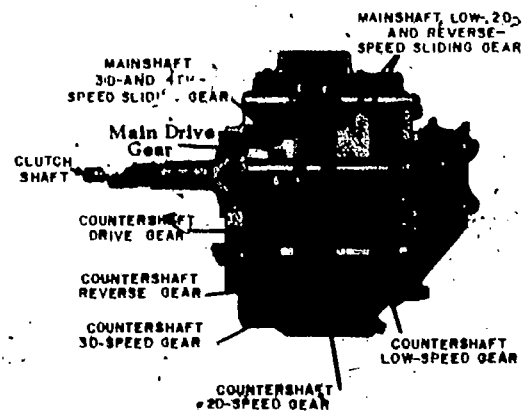
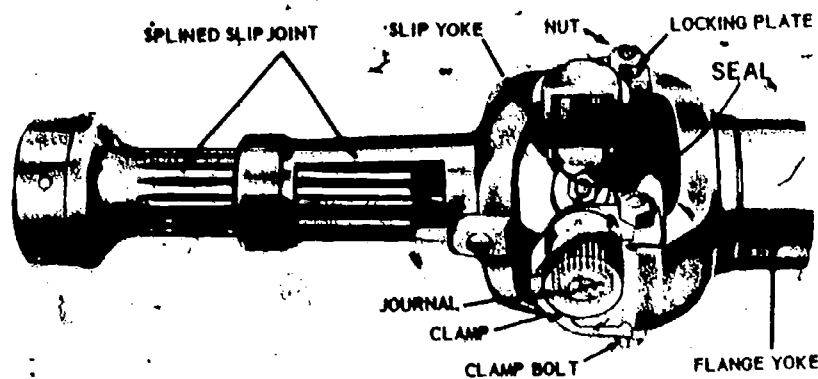

Fig 2-37. Four-speed truck transmission.
Fig 2-38. Slip joint and common type of universal joint.
- (a) **Sliding-gear (fig 2-37).** The spur gear, constant mesh, and synchromesh type transmissions are used in the different items of engineer construction equipment. The operator must disengage a clutch, select the gear ratio, and slowly engage the clutch to cause the power to flow.
- (4) **Auxiliary transmission and transfer case.** An auxiliary transmission and transfer case is usually used in construction equipment to provide an additional gear reduction, to provide power to the front wheels on all-wheel drive vehicles, and to furnish power for auxiliary devices, such as a winch. It is connected to the main transmission by a short propeller shaft (jack shaft) and universal joints. Basically, it is an additional gear train which provides a low-speed range, and permits power to be applied to the front wheels when necessary. It is sometimes referred to as a "drop box," because it provides a means of lowering the power train enough for the front propeller shaft to clear the engine.
- (5) **Propeller shaft.** Power is transmitted from the transmission to the rear ends of vehicles by the propeller shaft. The means of transmitting power must be flexible, because the driving axle of the vehicle is attached to the springs and is free to move up and down while the transmission is attached to the frame and cannot move. Any upward movement of the wheels, as when the vehicle travels over rough ground, would shorten the distance between the rear end and the transmission. To compensate for this changing distance, the propeller shaft is fitted with a slip joint (spline) that is free to move back and forth (fig 2-38). Another device used on the propeller shaft is the universal joint which permits power to be transmitted through an angle. The angle between the engine crankshaft axis and a line to the axle will change as the vehicle moves over rough ground and as the load is increased or decreased. The universal joint provides the flexibility needed in the power train.